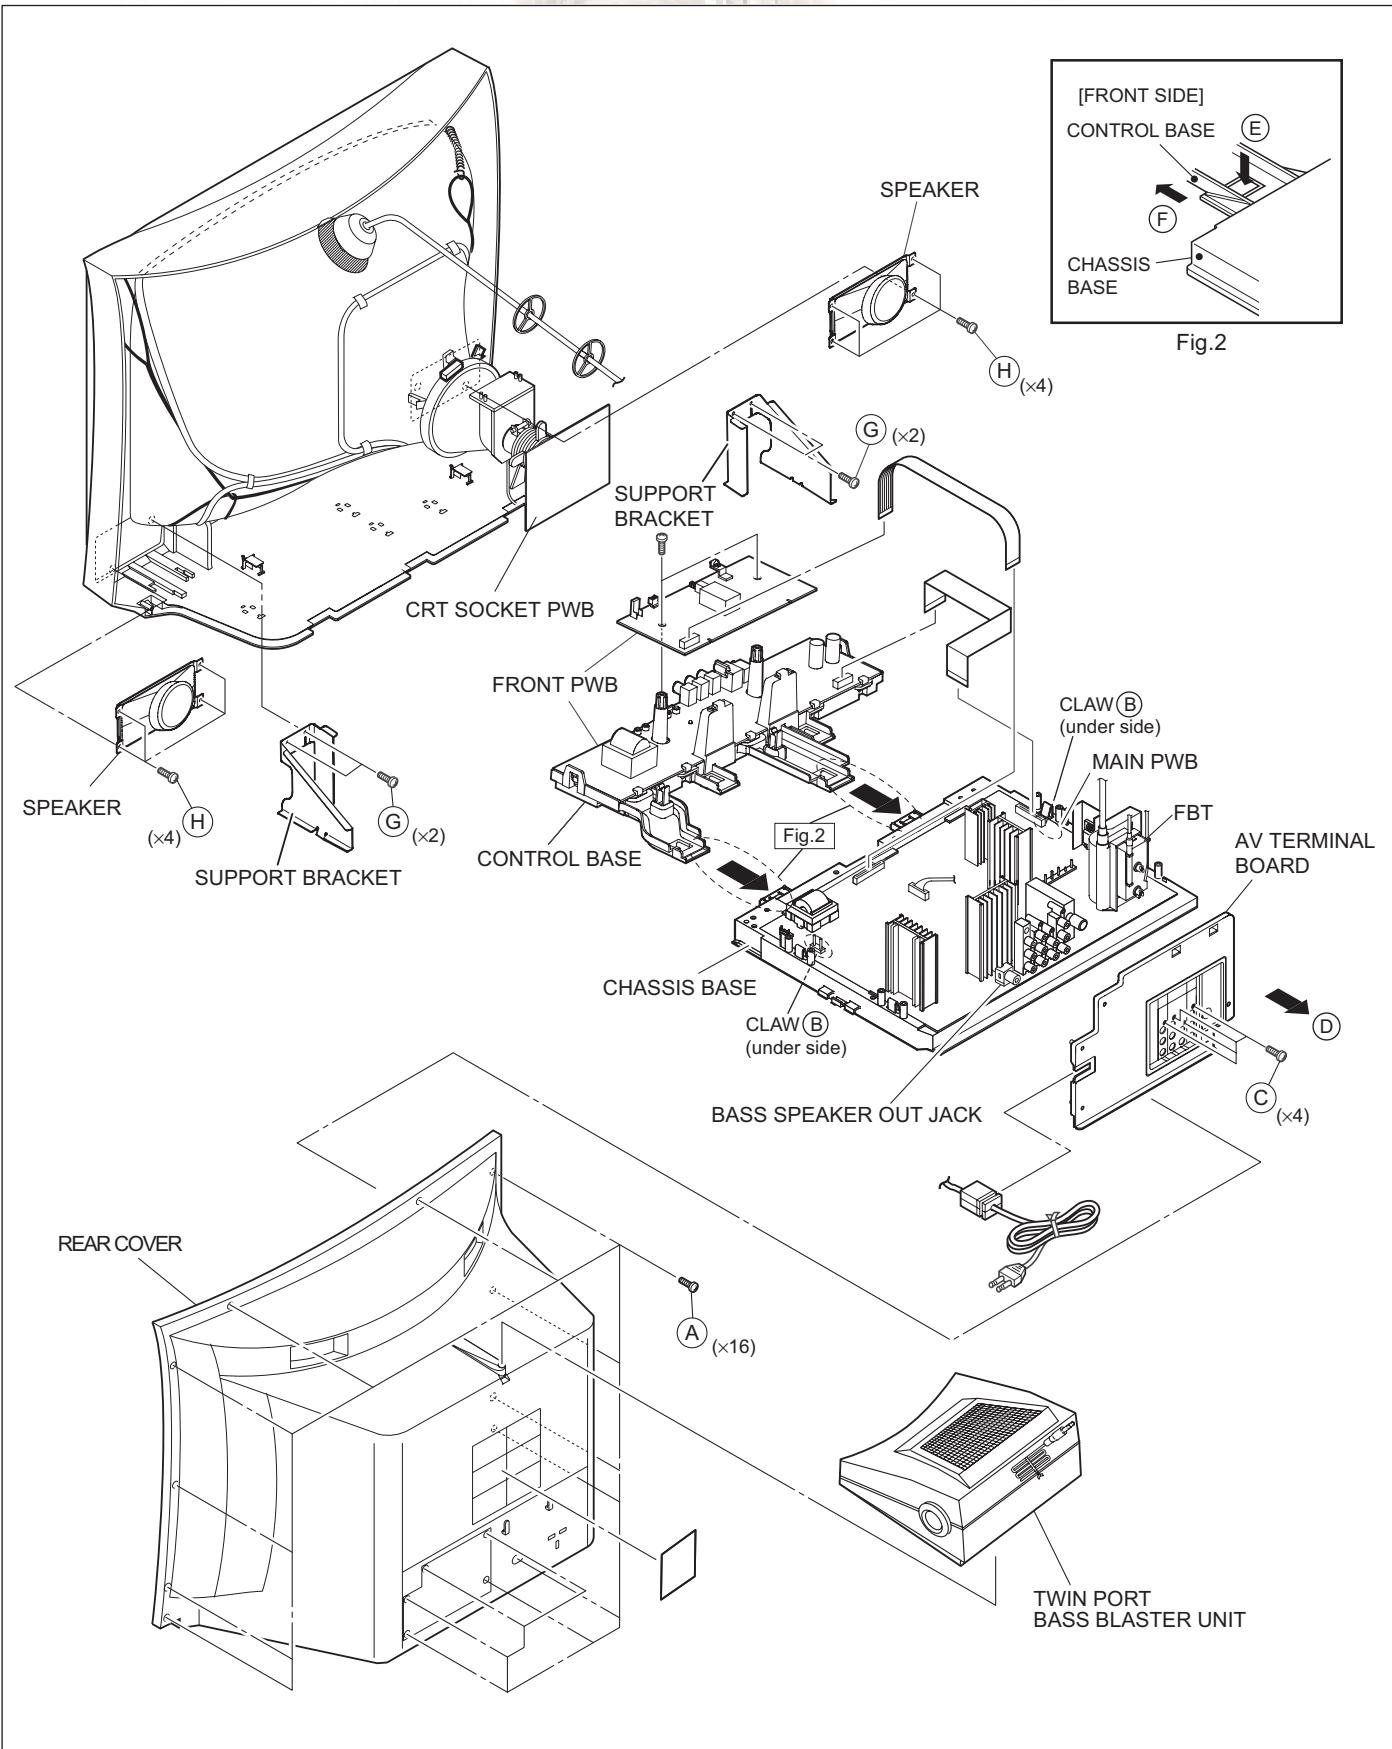

Fig.1
- (1) Remove the 16 screws [A] as shown in Fig.1.
- (2) Withdraw the REAR COVER toward you.
- (1) Slightly raise the both sides of the CHASSIS by hand and remove the 2 claws [B] under the CHASSIS from the front cabinet as shown in Fig.1.
- (2) Withdraw the CHASSIS backward.
- (1) Remove the 4 screws [C] as shown in Fig.1.
- (2) When you pull out the AV TERMINAL BOARD in the direction of arrow [D] as shown in Fig.1, it can be removed.
- (1) Remove the 2 screws [G], and remove the SPEAKER HOLDER.
- (2) Remove the 4 screws [H] as shown in Fig.1.
- (3) Withdraw the SPEAKER backward.
- (4) Follow the same steps when removing the other hand SPEAKER.